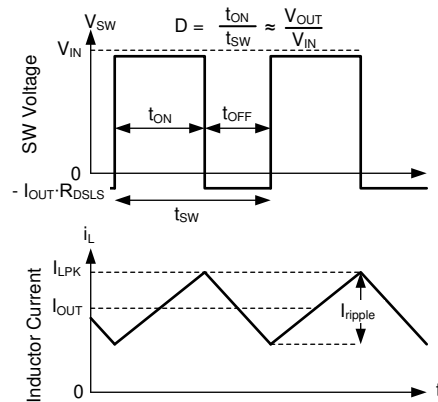

图 8-17. SW Voltage and Inductor Current Waveforms in Continuous Conduction Mode (CCM)
The following operating description of the LMR36503-Q1 refers to the 节 8.2 and to the waveforms in 图 8-17. In CCM, the LMR36503-Q1 supplies a regulated output voltage by turning on the internal high-side (HS) and low-side (LS) switches with varying duty cycle (D). During the HS switch on-time, the SW pin voltage, V_{SW} , swings up to approximately V_{IN} , and the inductor current, i_L , increases with a linear slope. The HS switch is turned off by the control logic. During the HS switch off-time, t_{OFF} , the LS switch is turned on. Inductor current discharges through the LS switch, which forces the V_{SW} to swing below ground by the voltage drop across the LS switch. The converter loop adjusts the duty cycle to maintain a constant output voltage. D is defined by the on-time of the HS switch over the switching period: